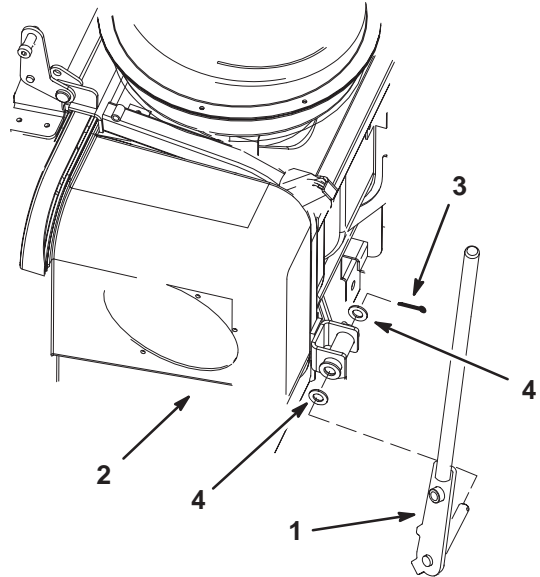

Figure 2
7. Remove the cotter pin and washer from the bagger arm (Fig. 2). Save the washer and cotter pin.
8. Slide the bagger arm and washer out from the bagger frame (Fig. 2). Save the washer.